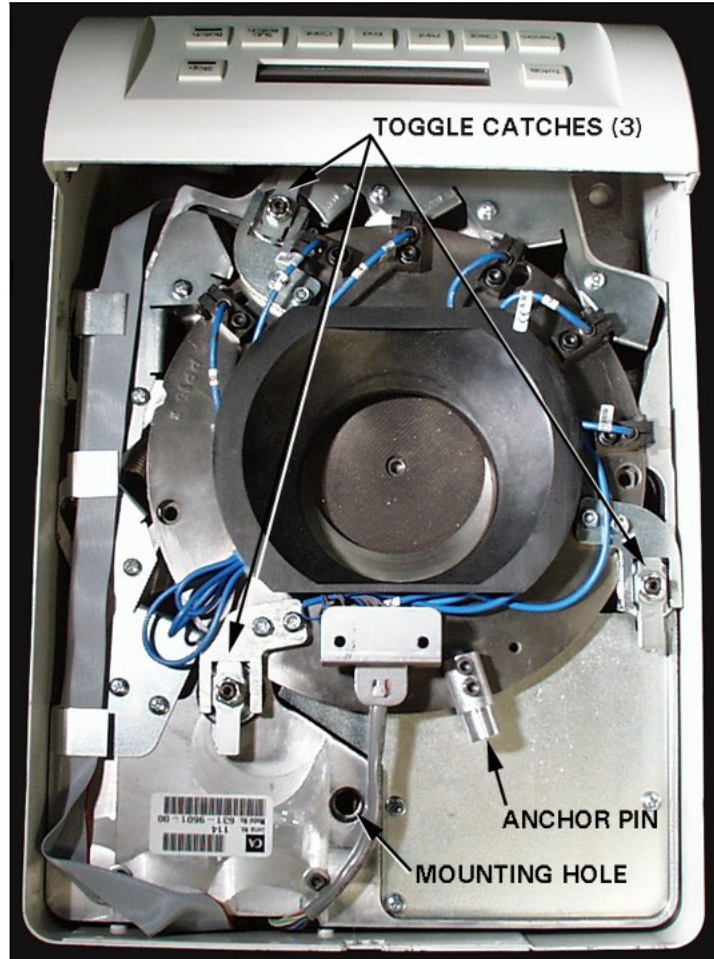

Figure 2 Sort Disk (Top View)
### Sort disk partial removal- Figure 2
2. Turn the three toggle catches parallel to the arms of the hold-down forks -- see Figure 2.